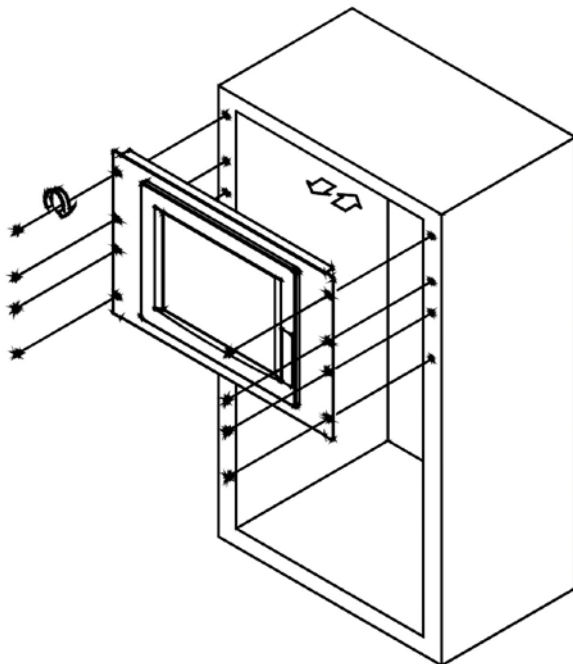

Figure 5-14: Install into a Cabinet/Rack
Step 5: Slide the monitor with the attached cabinet/rack bracket into a rack or cabinet (Figure 5-14).
Step 6: Once the monitor with the attached cabinet/rack has been properly inserted into the rack or cabinet, secure the front of the rack/cabinet bracket to the front of the rack or cabinet (**Figure 5-14**).